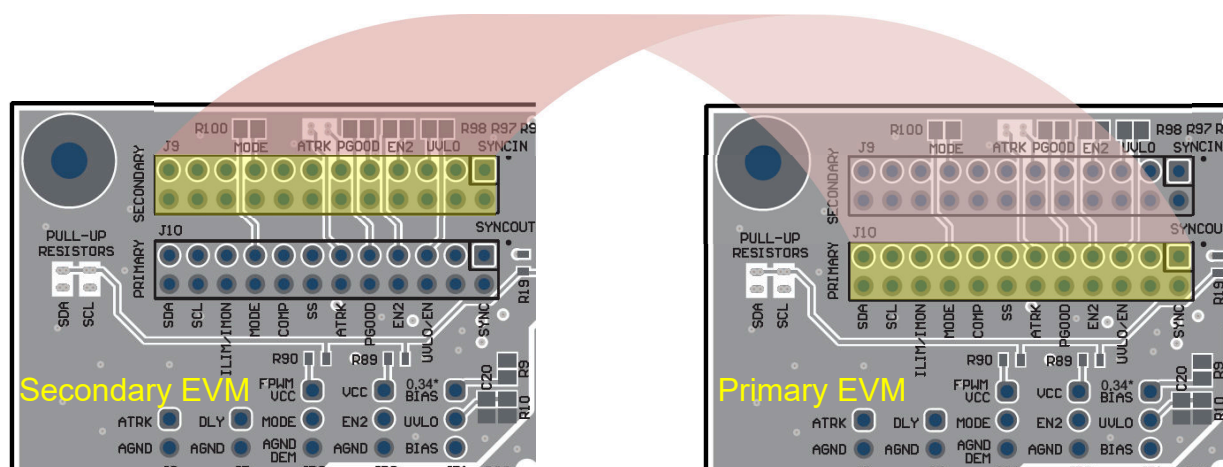

Figure 3-2. Connecting the Primary EVM and Secondary EVM with Ribbon Cable
2. Connect J10 of the primary EVM and J9 of the secondary EVM with ribbon cable. Refer to Figure 3-2.